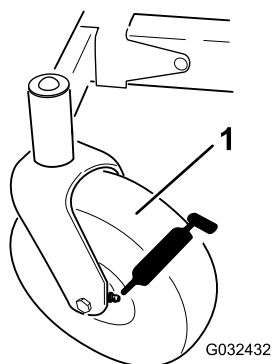
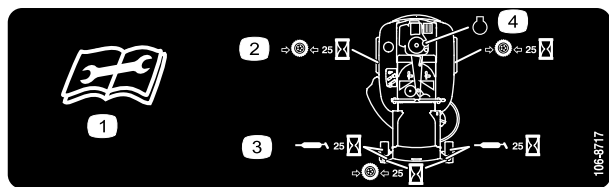

Figure 27
Figure 28
3. Clean the grease fittings (Figure 27 and Figure 28) with a rag.
4. Connect a grease gun to each fitting (Figure 27 and Figure 28).